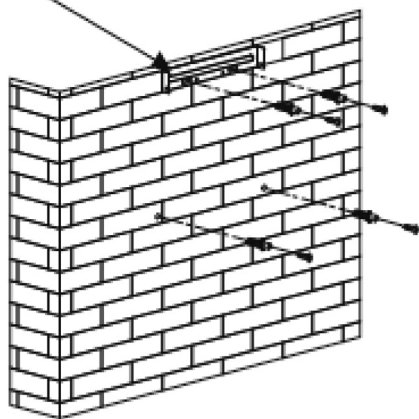

fig.5
- Install the v-flap in the outlet. Fix the expansion pipe on the outlet with a cable tie. See fig.5. Hang the cooker hood onto the hook. See fig.6.